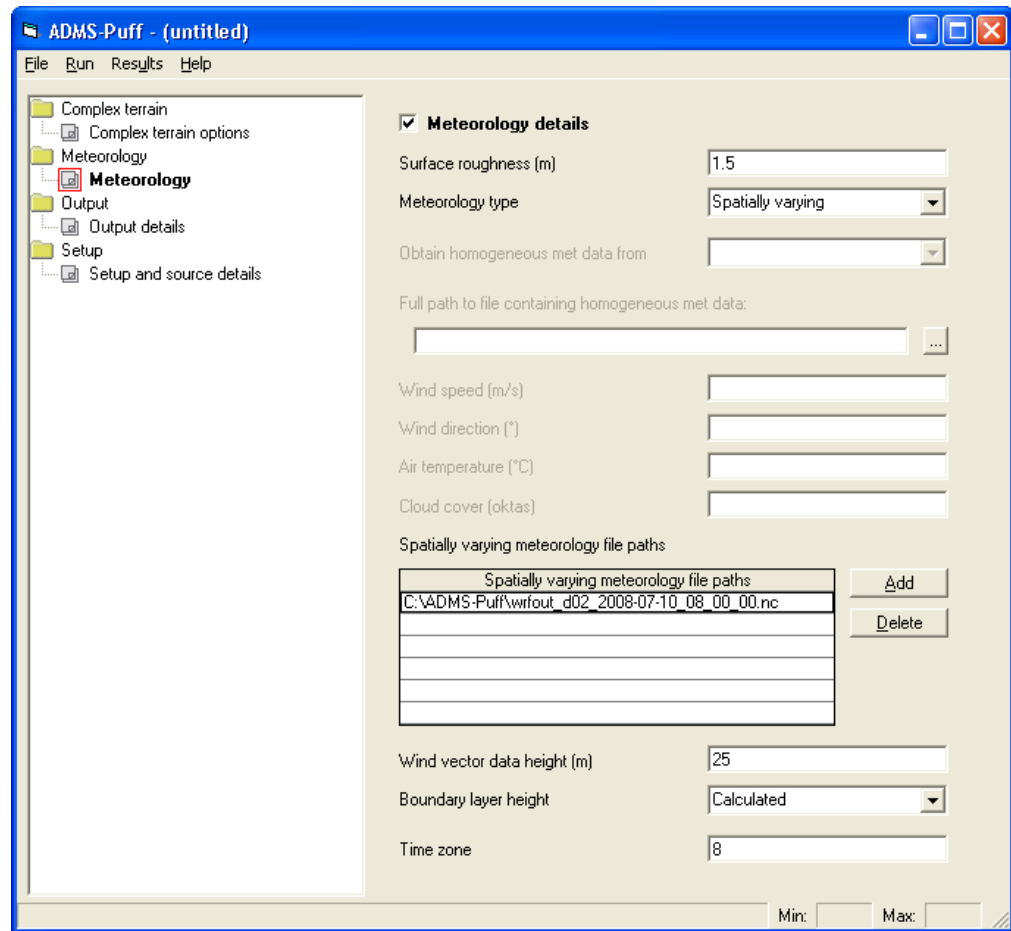

Figure 19: The meteorology screen for spatially-varying meteorological data.
- i. The meteorology screen is now complete and will be similar to that shown in Figure 19.